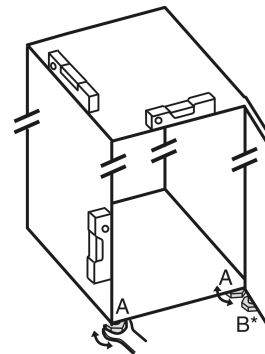

Fig. 5
- ▶ Unscrew the adjustable feet Fig. 5 (A) using the enclosed open-end spanner and a spirit level until the appliance is firmly aligned and level.
▶ Unscrew the adjustable foot *Fig. 5 (B)* on the swap bearing block with the enclosed open-end spanner until it rests on the floor.
▶ Turn the adjustable foot *Fig. 5 (B)* 90° further.